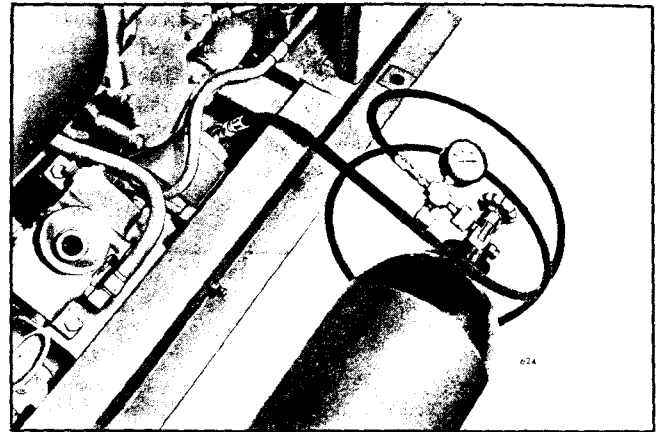

Fig. 23 - Charging Accumulator with Charging Kit J 6714-02
1. Attach the gage end of charging kit J 6714-02 to the nitrogen tank (Fig. 23).